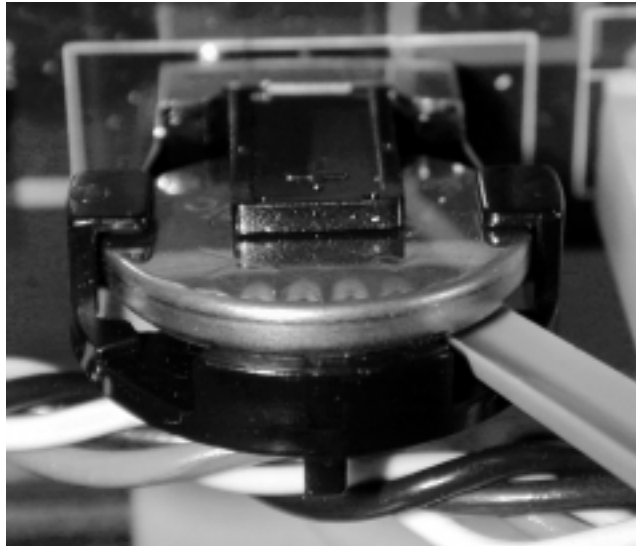

Figure 5-1 **Freeing battery from retaining clip**
2. Insert your fingernail, a plastic knife, or a pen cap in one of the slots on the top of the battery’s retaining clip and gently pry the battery loose from the retaining clip, as shown in Figure 5-1.